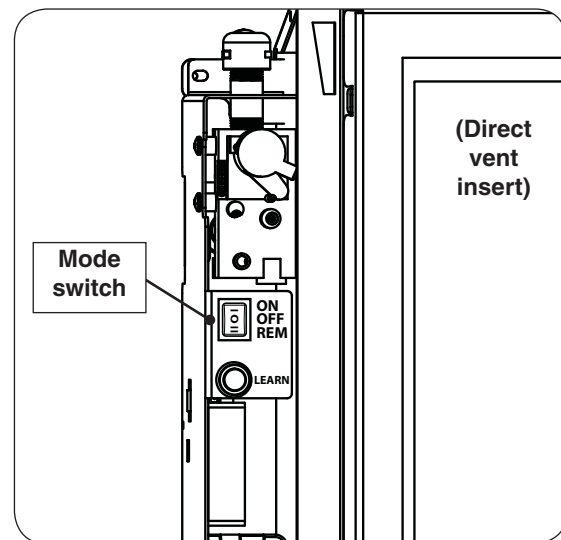
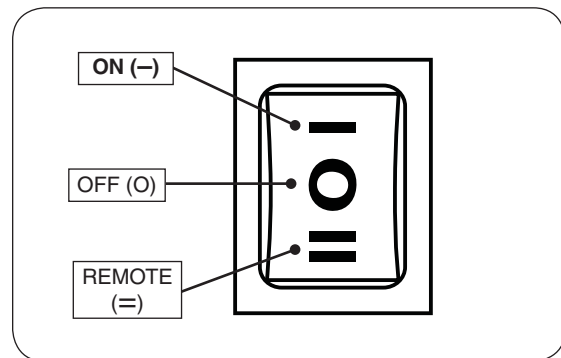

Fig. 37-1 Control box (left side of unit)
Fig. 37-2 Mode switch detail
1. Open the surround door. Locate the 3-position mode switch on the control box (see Fig. 37-1). Press the switch up to the **ON (—)** position (see Fig. 37-2). The system will beep and the ignition sequence will begin.